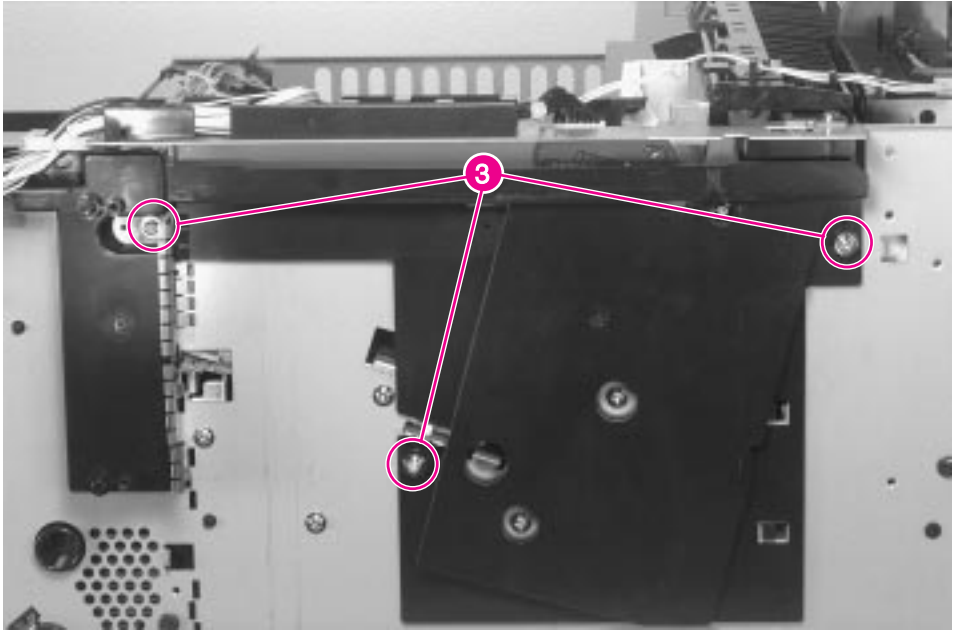

Figure 6-36 Output Paper Sensor PCA (3 of 4)
- 4 Remove 3 screws (figure 6-36, callout 3), and remove the plastic PCA shield. (Note the positioning of the metal grounding fingers at the left of the shield.)